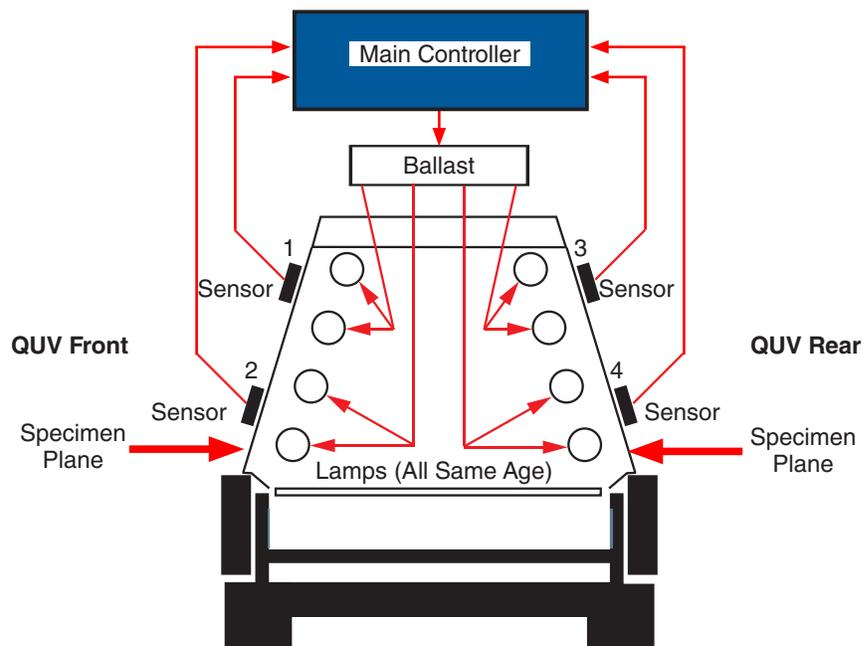
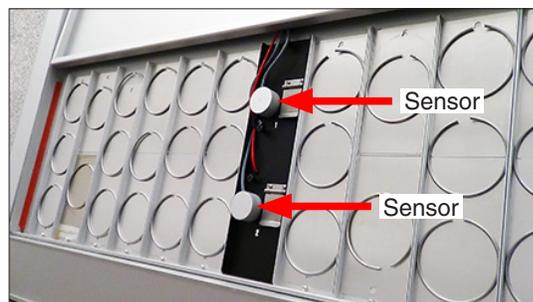

Figure 8.2a: Irradiance control system schematic.
Figure 8.2b: UV sensor locations: two (2) in front specimen exposure area and two (2) in rear (not shown)
- For all models except QUV/basic, an irradiance control system (SOLAR EYE) monitors and maintains the UV intensity via four sensors in the specimen plane (Figure 8.2a and Figure 8.2b).
- The UV sensors are located on black panels in the center of the specimen exposure area (Figure 8.2b).